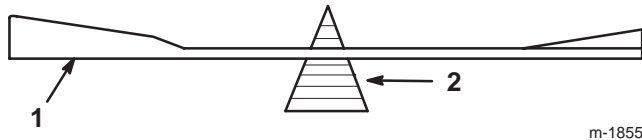

Figure 33
2. Check the balance of the blade by putting it on a blade balancer (Fig. 33). If the blade stays in a horizontal position, the blade is balanced and can be used. If the blade is not balanced, file some metal off of the back side of the blade. Repeat this step until the blade is balanced.